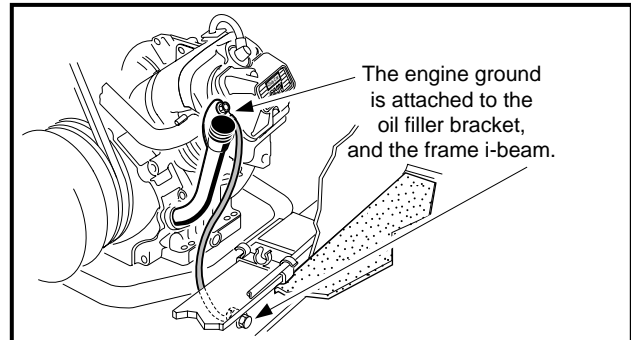

Figure 11-25 Test Engine Ground Strap
3.1. Place the red (+) probe of the multimeter on the ground strap terminal end located on the oil filler bracket on the engine (**Figure 11-25, Page 11-25**). Place the black (-) probe on the vehicle frame. The reading should be continuity. If the reading is incorrect, clean and tighten wire connections. If the connections are good and the reading is incorrect, repair or replace the wire.